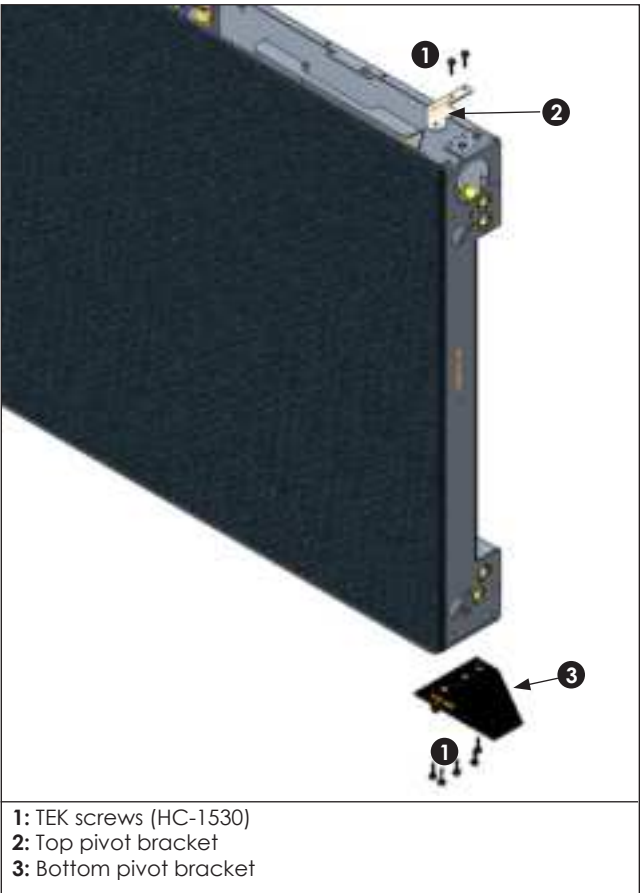

Figure 17: Attach Pivot Brackets
2. Attach the top pivot bracket and bottom pivot bracket to the main section with supplied TEK screws (#HC-1530) in provided pilot holes. Refer to **Figure 17**.